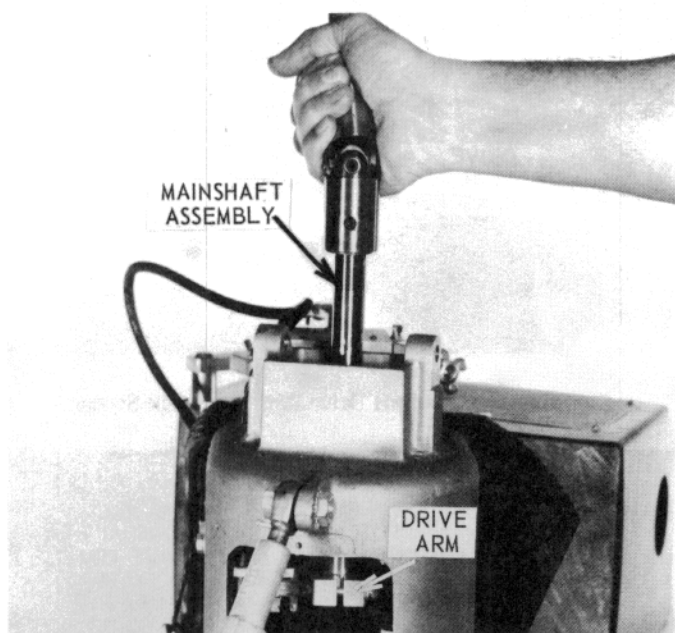

Figure 38 — Mainshaft Assembly and Drive Arm
- 1.2.14 Pull the mainshaft assembly up out of its housing to facilitate removal of the drive arm (see Figure 38).